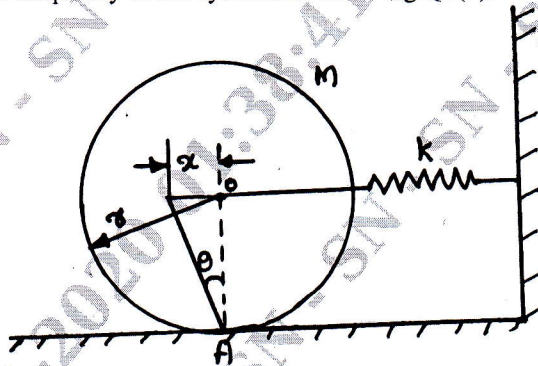

Fig.Q2(b)
- Determine the natural frequency of the system shown in Fig.Q2(b).